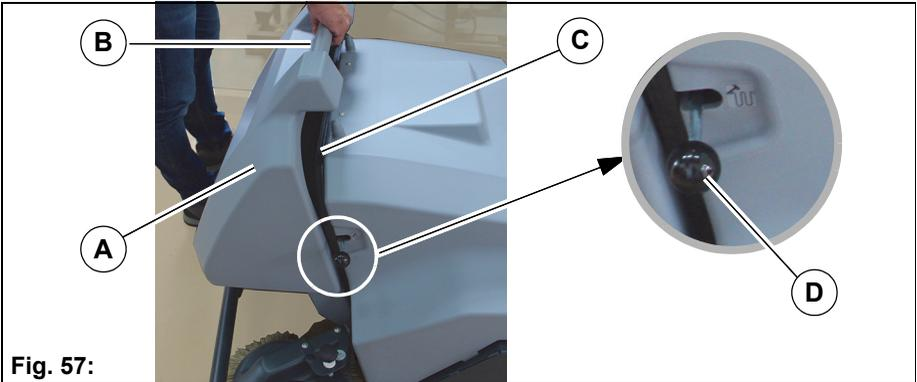
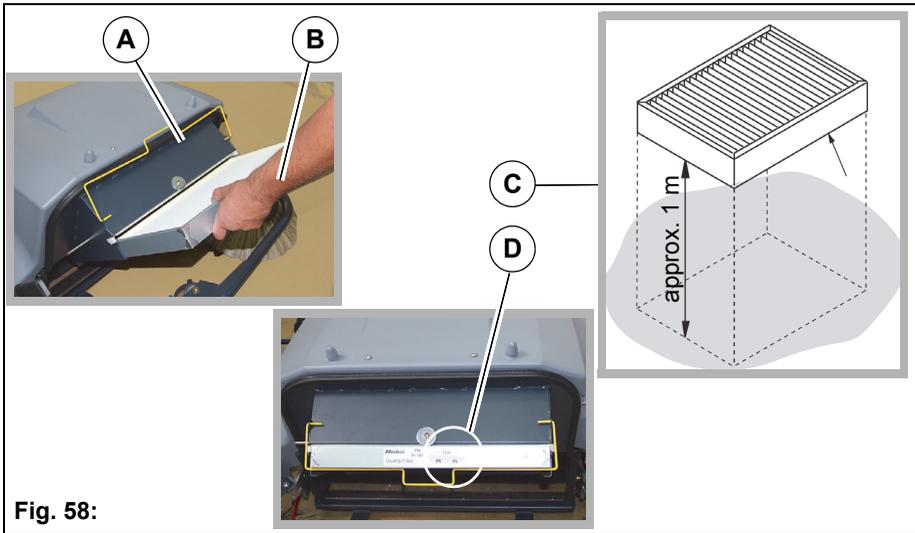

Fig. 57:
Fig. 58:
2. Pull the dirt hopper **Fig. 57-A** upwards using the handle **Fig. 57-B** and dispose of the contents in an environmentally friendly way.
Inspect the dirt hopper seal **Fig. 57-C** weekly and replace if wear is present.
Clean the filter **Fig. 58-B** several times per day using the shaking system **Fig. 57-D**.
2. Swivel the yellow handle **Fig. 58-A** upwards and pull the filter **Fig. 58-B** out of the frame.
The dirty side must be facing the floor **Fig. 58-C**!
2. Remove the dirt hopper **Fig. 57-A**.